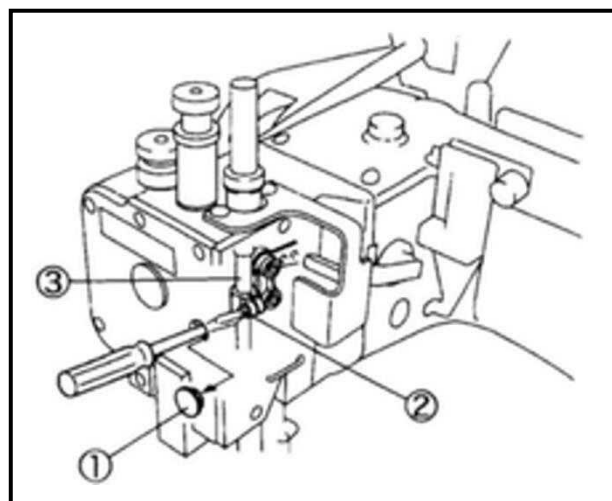
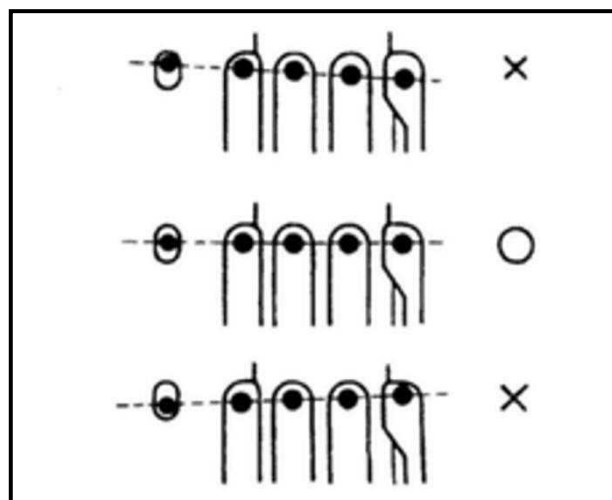

Fig.47
Fig.48
- (1) 移开油塞①。
- (2) 松开螺钉②。
- (3) 上下移动针杆③去调整，针与针孔需保持平行。(Fig.48)
- (4) 锁紧螺钉②。
- (5) 装回油塞①。
- (1) Remove the seal plug①.(Fig.47)
- (2) Loosen the screw②.
- (3) Move the needle bar③up or down to adjust the height. Check the alignment in Fig. 48.
- (4) Tighten the screw②scecruely.
- (5) Reset the seal plug①.